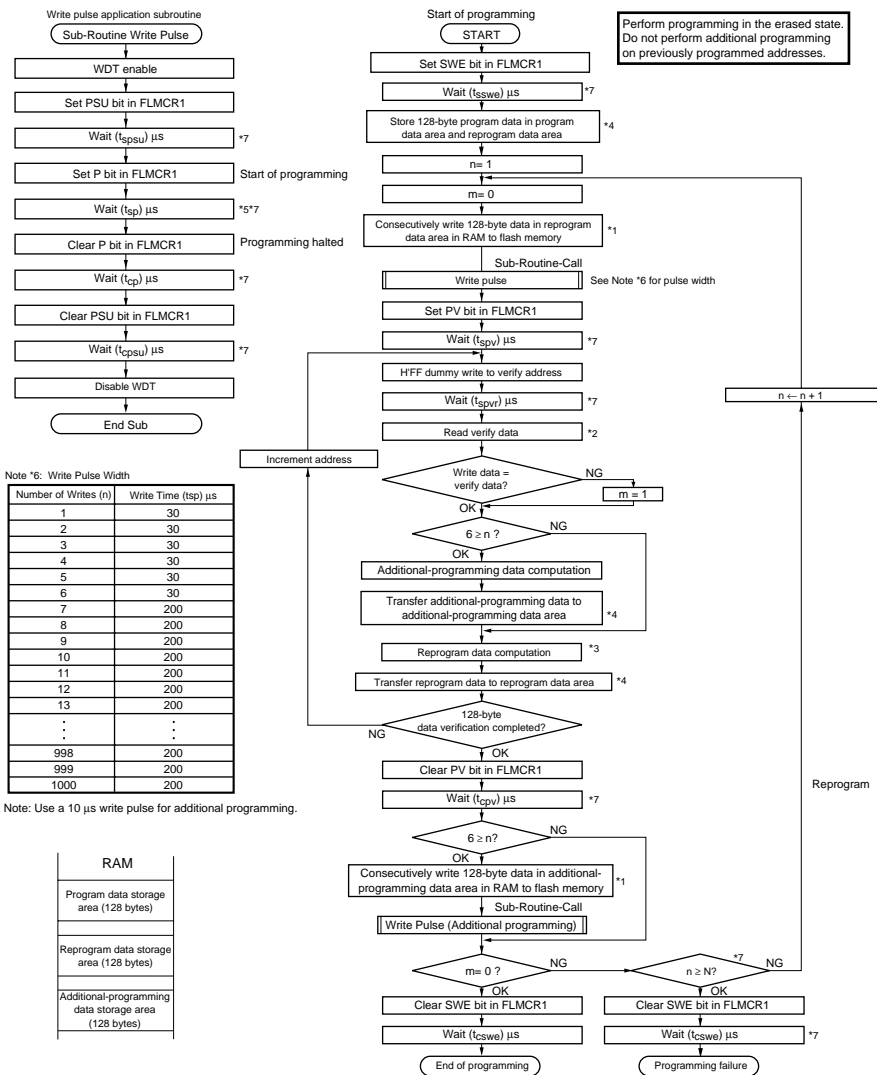

Figure 17.10 Program/Program-Verify Flowchart (128-Byte Programming)
When writing data or programs to flash memory, the program/program-verify flowchart shown in figure 17.10 should be followed. Performing programming operations according to this flowchart will enable data or programs to be written to flash memory without subjecting the device to voltage stress or sacrificing program data reliability. Programming should be carried out 128 bytes at a time.
After the elapse of the given programming time, clear the P bit in FLMCR1, then wait for at least (t_{cp}) μ s before clearing the PSU bit to exit program mode. After exiting program mode, the watchdog timer setting is also cleared. The operating mode is then switched to program-verify mode by setting the PV bit in FLMCR1. Before reading in program-verify mode, a dummy write of H'FF data should be made to the addresses to be read. The dummy write should be executed after the elapse of (t_{spv}) μ s or more. When the flash memory is read in this state (verify data is read in 16-bit units), the data at the latched address is read. Wait at least (t_{spvr}) μ s after the dummy write before performing this read operation. Next, the originally written data is compared with the verify data, and reprogram data is computed (see figure 17.10) and transferred to RAM. After verification of 128 bytes of data has been completed, exit program-verify mode, wait for at least (t_{cpv}) μ s, then clear the SWE bit in FLMCR1. If reprogramming is necessary, set program mode again, and repeat the program/program-verify sequence as before. The maximum number of repetitions of the program/program-verify sequence is indicated by the maximum programming count (N). Leave a wait time of at least (t_{cswe}) μ s after clearing SWE.
- 6. The program/program-verify flowchart for the H8/3026F-ZTAT version is shown in figure 17.10.